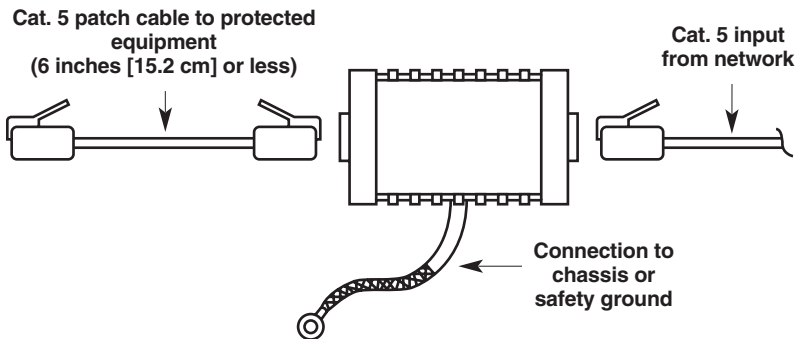

Figure 3-3. Installing a Surge Protector.
2. Install the Surge Protector between the incoming twisted-pair line and the port that the line was connected to (see Figure 3-3 below). You will have to run a straight-through-pinned Category 5 patch cable with modular RJ-45 connectors from the Surge Protector to the port; we suggest that you use the cable supplied with the Surge Protector. It doesn't matter which end of the Surge Protector is attached to the twisted-pair line and which end is attached to the patch cable.
4. Attach the Surge Protector's braided ground strap directly to the chassis-ground connection point you have located (see Figure 3-3 on the previous page). The best way to make this connection is to attach the braided metal strap using a hex nut or screw on your device.